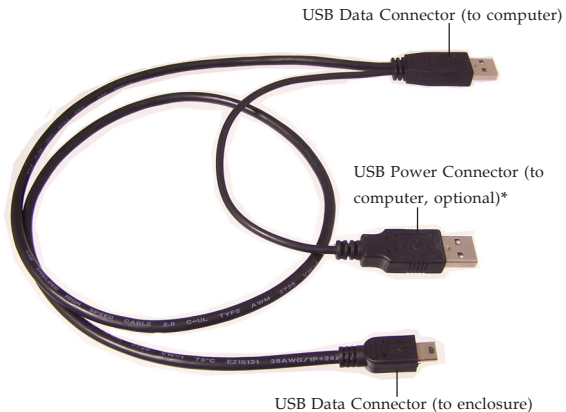

Figure 2: USB cable
7. Plug the **USB Data Connector**, see **Figure 2** on page 3, into a USB port of the computer.